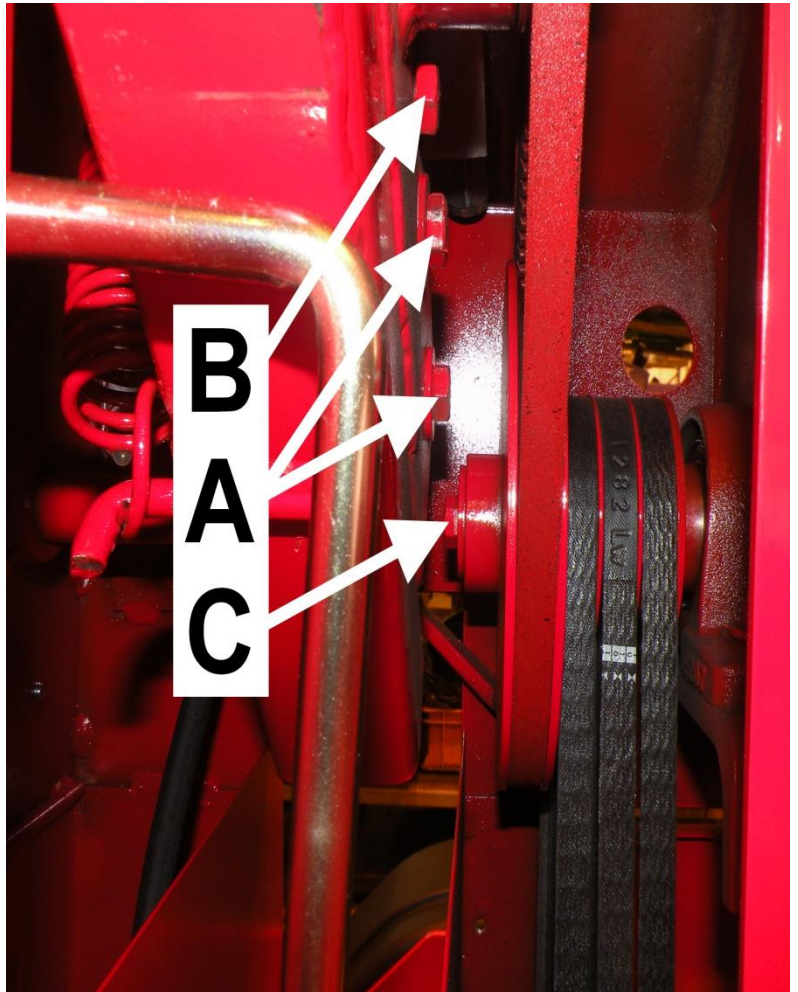

Figure 69.
4. Remove the belt pulley bolt C in Figure 69, and slip the belts (3 pcs, A 38) off the upper belt pulley.
5. Install the new belts, and re-attach the fastening bolt C in Figure 69.